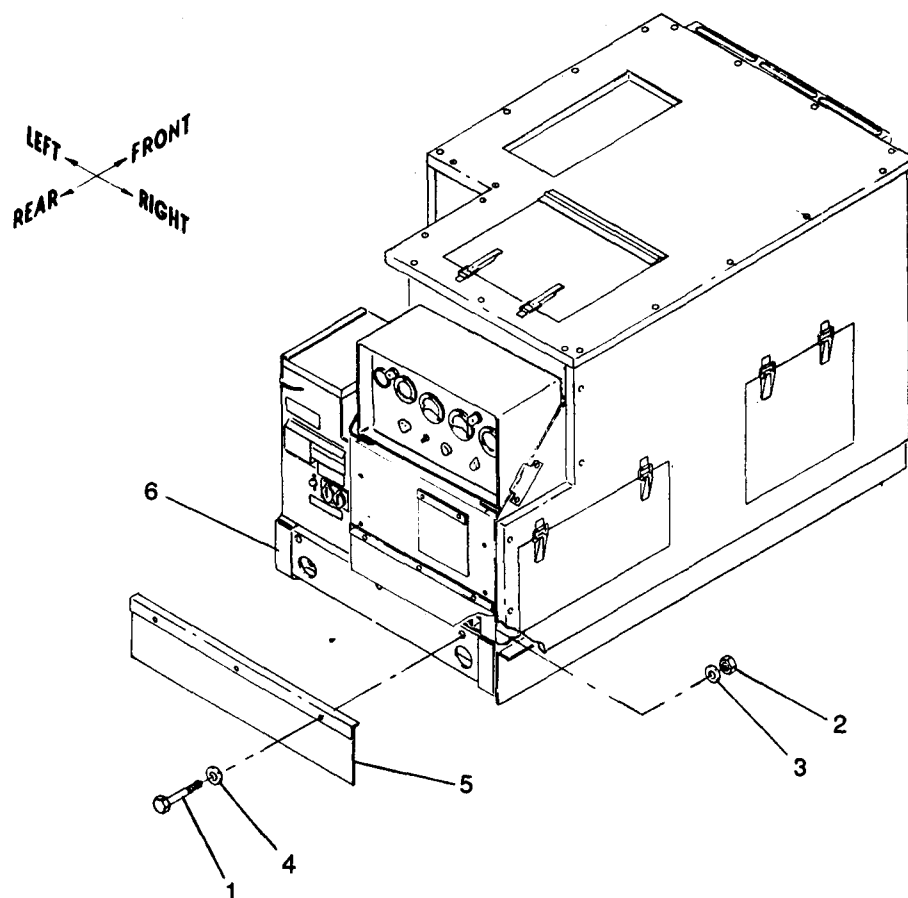

Figure 5-11. Rear Flap Assembly, Removal and Installation
a. Removal. See figure 5-11. Remove rear flap assembly from skid as follows:
(1) Remove three screws (1) and locknuts (2), and six washers (3 and 4) securing rear flap assembly (5) to skid (6).
(2) Remove rear flap assembly (5).
b. Installation. See figure 5-11. Install rear flap assembly as follows:
(1) Position rear flap assembly (5) on skid (6) and install three screws (1) and locknuts (2), and six washers (3 and 4).
(2) Torque screws (1) to 16 $\pm$ 2 ft-lbs dry.